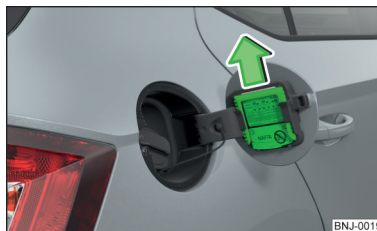

Fig. 142
- Slide out the ice scraper in the direction of the arrow » Fig. 142.